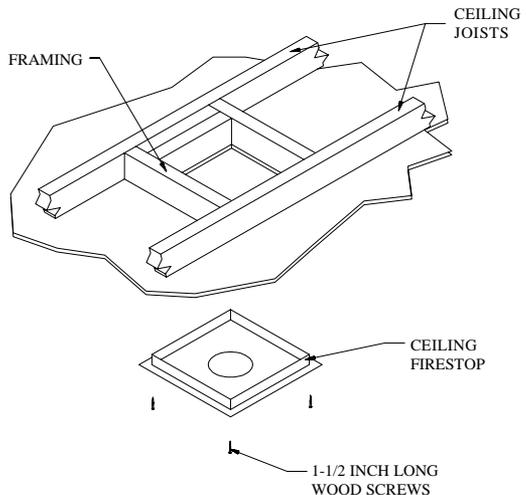
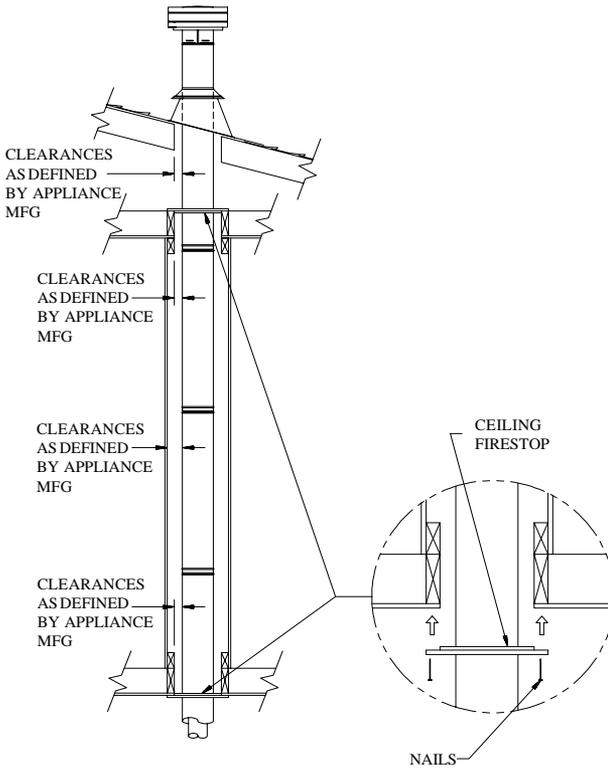

Fig 14
Fig 18
cut a square hole in the ceiling, (10"x10" square for 7" x 4" pipe, 11"x11" square for 8" x 5" pipe) centered on the hole drilled in Step 2. Frame the hole as shown in Fig 14.
(1) For multi-story vertical installations, a Ceiling Firestop is required at any subsequent floors. (Fig 18) The opening should be cut and framed in the same manner as the opening in Step 3. (See Fig 14) (2) Any occupied areas above the first floor, including closets and storage spaces, which the vertical vent passes through, must be enclosed.